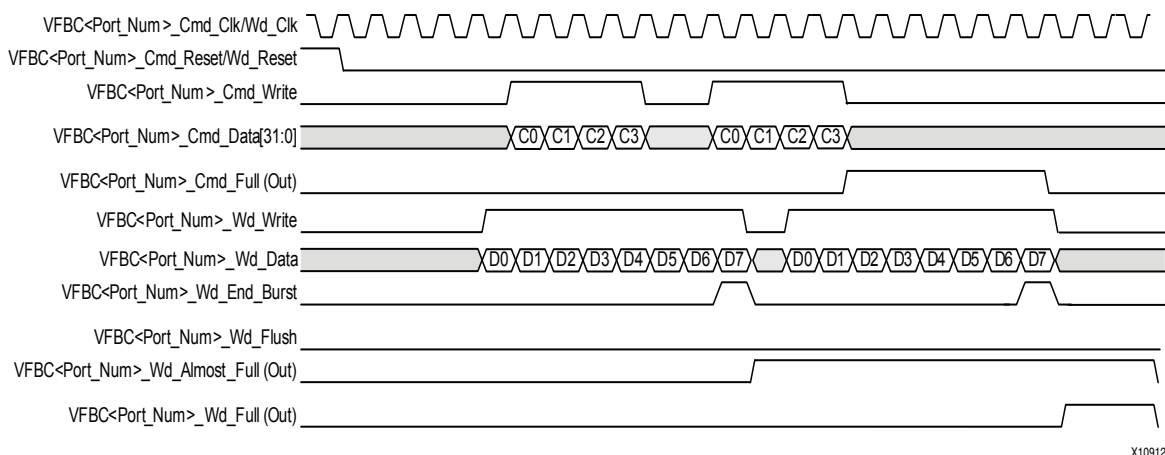

Figure 40: VFBC Write Timing
- The VFBC<Port_Num>_Wd_End_Burst signal is used only when the transfer is not a multiple of the burst size. If the transfer ends on a boundary that is not 32-word aligned, this signal must be asserted high during the last word transferred. The following figure shows a typical VFBC Write operation and provides an example of VFBC Write Timing. The actions of the Write data interface are enumerated below in Figure 40.
2. As shown in Figure 40, the command words C0, C1, C2, and C3 are being written during a data Write. The command words can be written before, during, or after the data is written.